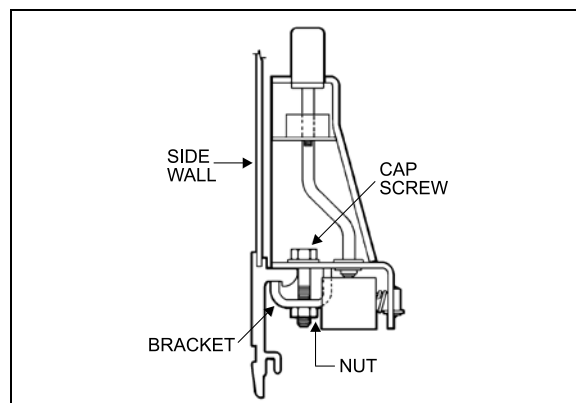
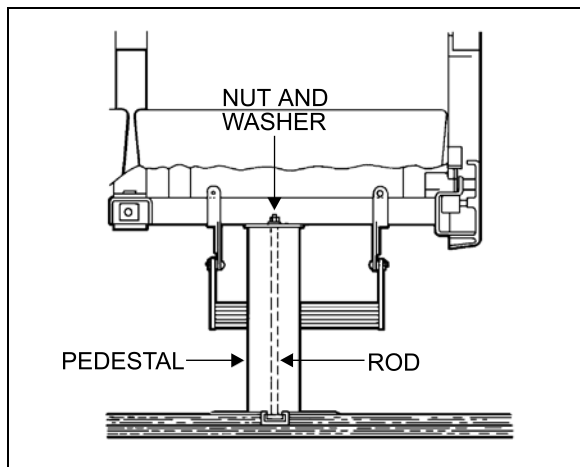

FIGURE 27: SIDE WALL MOUNTING
FIGURE 28: SEAT PEDESTAL ASSEMBLY 18107
4. Remove 2 cap screws, nuts, and washers holding seat frame to side wall and retain the 2 holding brackets. See Figure 27 and Figure 28.